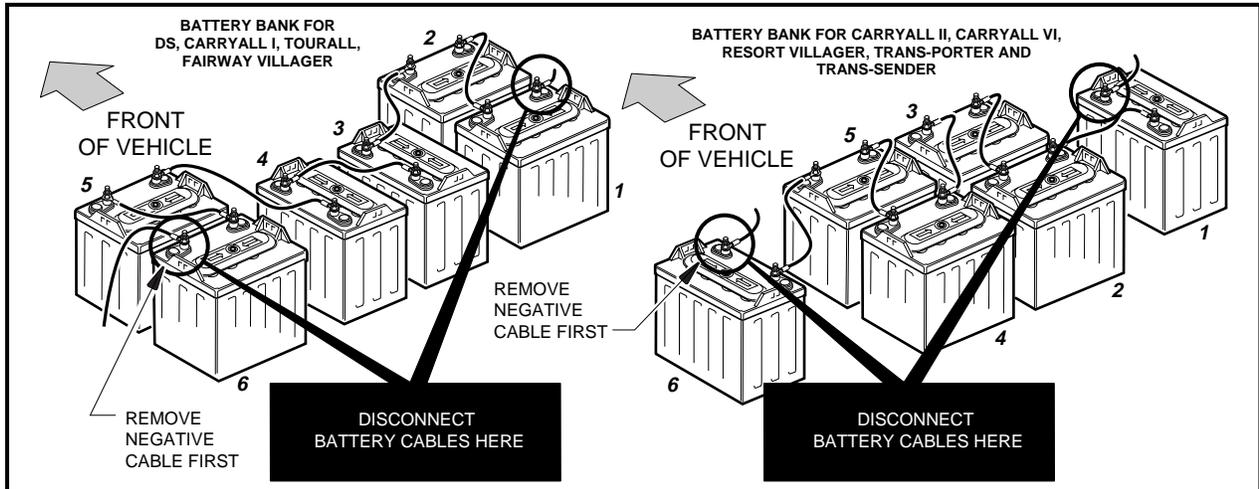

Figure 10-1 Batteries
- TO AVOID UNINTENTIONALLY STARTING THE VEHICLE, DISCONNECT BATTERIES AS SHOWN IN **FIGURE 10-1, PAGE 10-2**, AND THEN DISCHARGE THE CONTROLLER AS FOLLOWS: